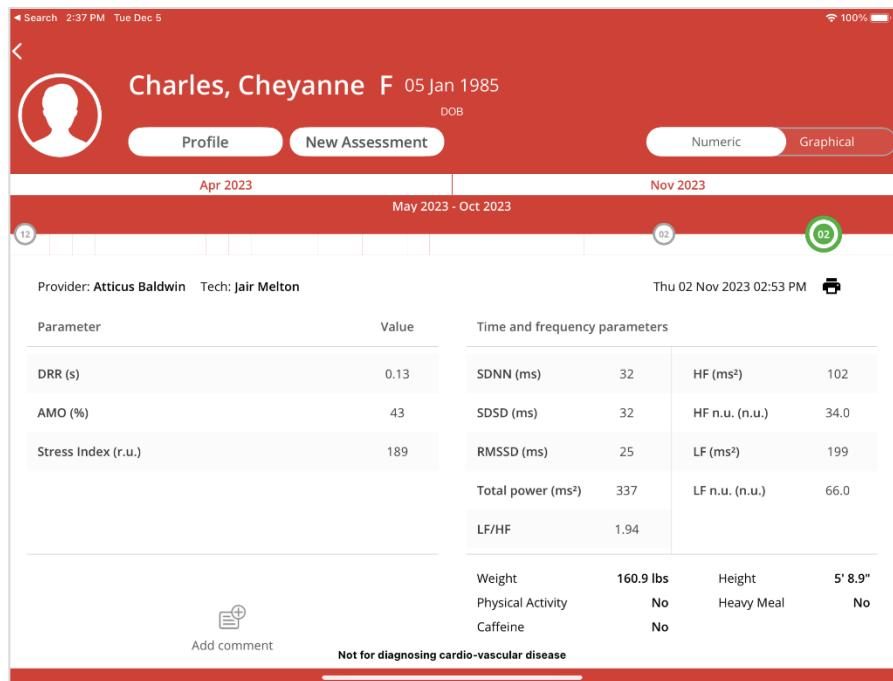

Figure 24: Patient History screen (existing patient)
3. The **Patient History** screen will be displayed with previous assessment results (Figure 24).
5. Press **Save** after making changes to the **Patient Profile**, and the system will return to the **Patient History** screen (Figure 24).